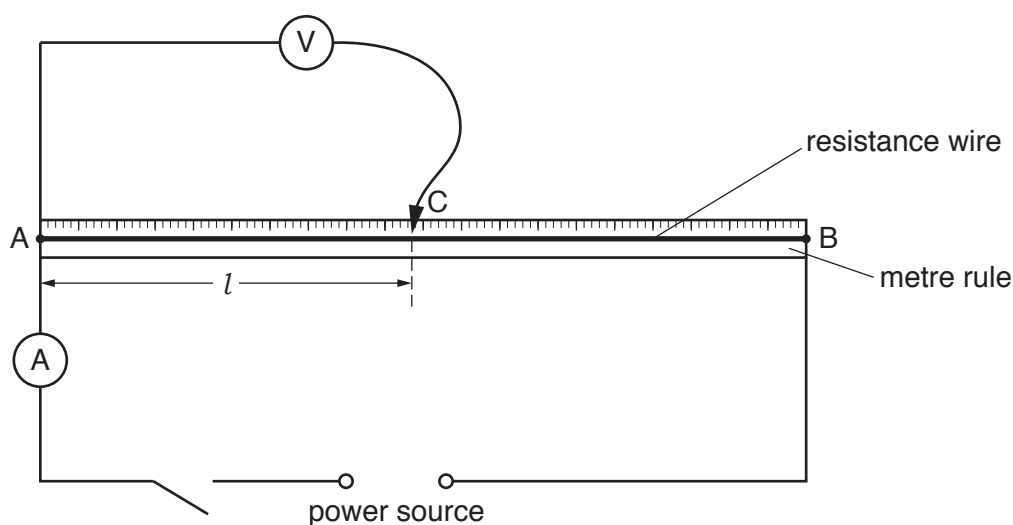

Fig. 6.1
- (viii) two terminals, e.g. crocodile clips, attached to the constantan wire at the ends of the metre rule so that connections can be made to the circuit shown in Fig. 6.1.
The circuit shown in Fig. 6.1 below must be set up for the candidates.